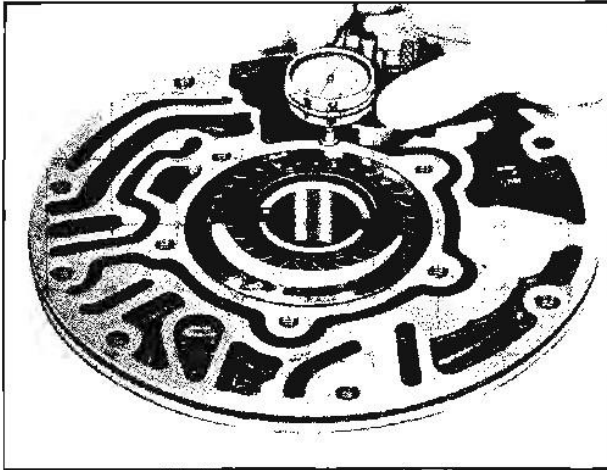

Fig. 7B-108 Checking Gear End-Clearance
8. With dial indicator set, check end-clearance (Fig. 7B-108). Correct end clearance is .0005" to .0015".